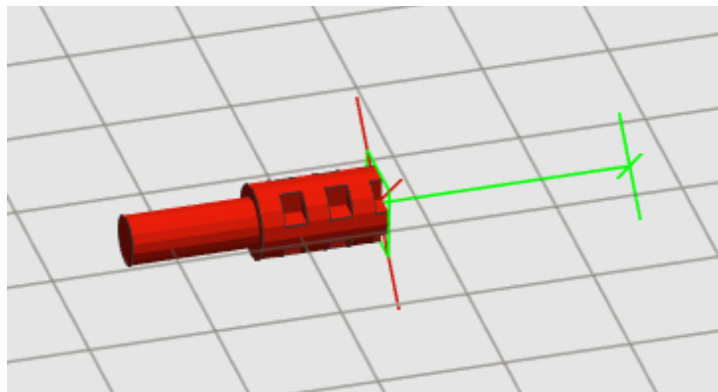

Fig. 17: Head of flexible axle
1. place flexible part “head” (Fig. 17). Heads of flexible parts have connection enabled and checked, so you can “snap” it on other parts, when connection is “valid”. A green tool will show you where the flexible “start” is oriented.